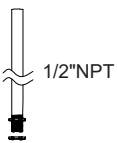

Figure 8
Step 1. Unscrew the nuts on 1/2" NTP. (Figure 8)